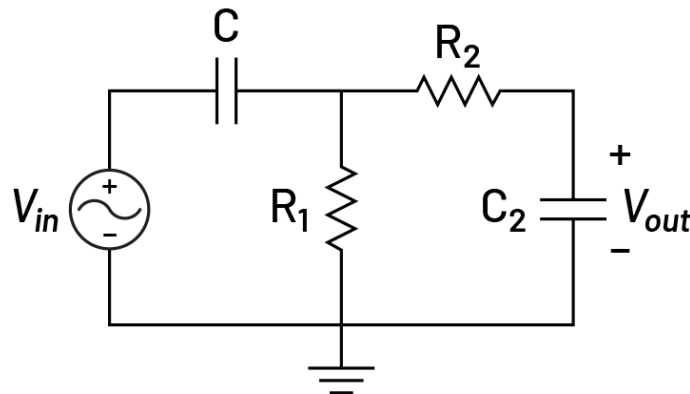

Figure 1. Band pass filter circuit diagram.
Follow the steps below to observe the behavior of a RC band pass filter. Use the following components for the circuit in Figure 1.
1. Construct the band pass filter circuit according to the diagram in Figure 1 using the corresponding resistor and capacitor values for R_1 , R_2 , C_1 and C_2 . This experiment uses two input channels on the 2 Series MSO for analysis. Attach the Channel 1 probe to the input of the circuit (V_{in}) and the Channel 2 probe to the output of the circuit (V_{out}). Make sure both probes are connected to the common ground of the circuit.
Follow the steps below to observe the behavior of a Twin-T Notch filter. Use the following components for the circuit in Figure 1.
1. Construct the notch filter circuit according to the diagram in Figure 1 using the corresponding resistor and capacitor values for R and C . Attach the Channel 1 probe to the input of the circuit (V_{in}) and the Channel 2 probe to the output of the circuit (V_{out}). Make sure both probes are connected to the common ground of the circuit. Tip: capacitor values are added together when placed in parallel. Two C capacitors in parallel will work the same as a singular $2C$ capacitor.